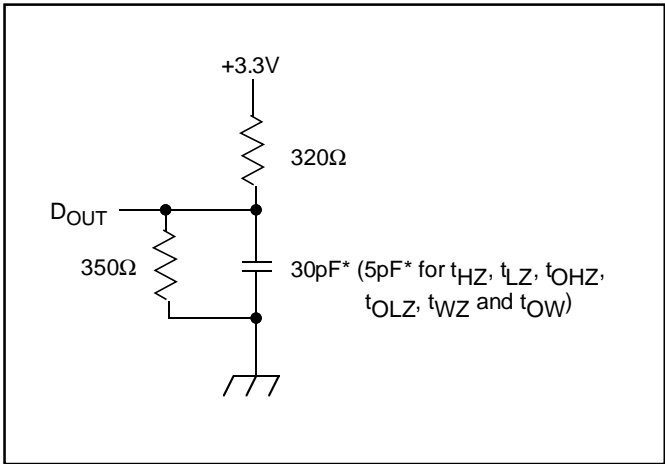

Figure 1. Output Load
- Transition is measured  $\pm 200$  mV from steady state voltage prior to change, with loading as specified in Figure 1. This parameter is sampled and not 100% tested.
Output Load	See Figures 1 and 2